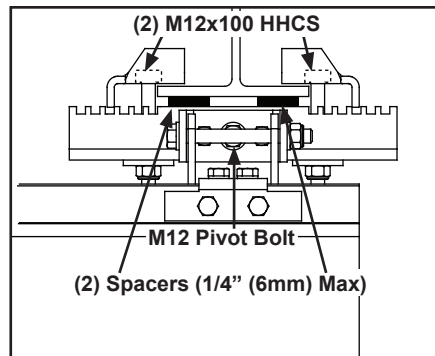

Figure 3-35
- Step 8. Tighten two (2) M10 x 30 mm HHCS until lock washers are flat to lock rail mounting bracket to rail. Do not over tighten.
- Step 2. If leveling is required, loosen M12 x 100 mm HHCS, I-Beam bracket bolt and insert spacers, maximum 1/4 in (6 mm), between I-Beam bracket and bottom flange of I-Beam. See Figure 3-35
- Step 3. Install two (2) M10 x 110 mm HHCS with M10 nylock nuts. **Tighten until bolts are snug + 1/4 turn.** Do not over tighten. Over tightening could cause bracket to bend.